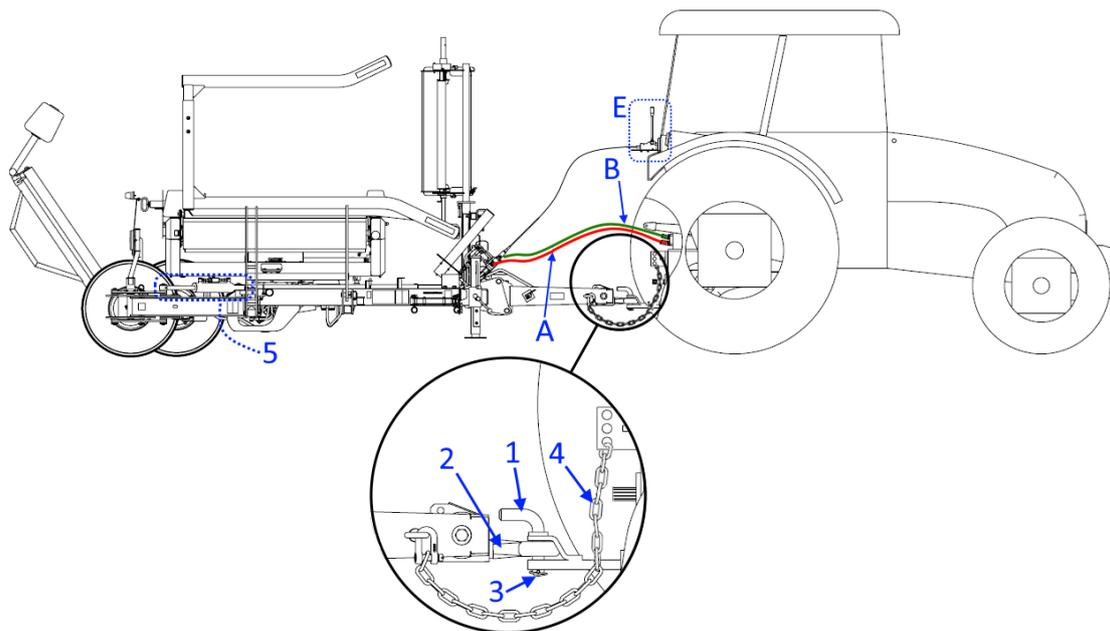

Figure 9. Connecting the hitch and drive of the Bale Wrapper
- Disconnect the drawbar eye from the transporting hitch of the tractor. Detach the additional chain which links the hitch with the tractor (**Fig. 9 – 4**).